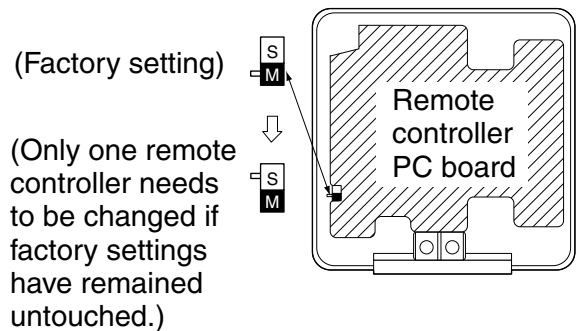

Fig. 29
- (2) Turn the **main/sub changeover** switch on one of the two remote controller PC boards to “S”. (Leave the switch of the other remote controller set to “M”.) (Refer to Fig. 29)